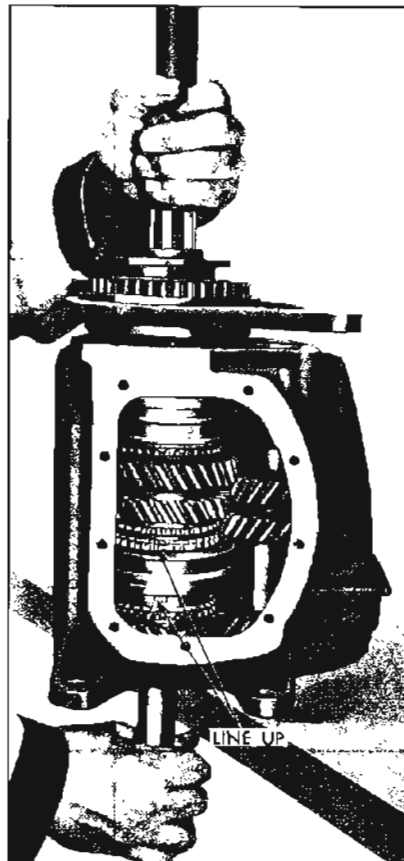

Figure 4-65—Installing Mainshaft
12. Lower the mainshaft assembly into the case, making certain that the notches on the fourth speed synchronizing ring correspond to the keys in the clutch assembly. See Figure 4-65.